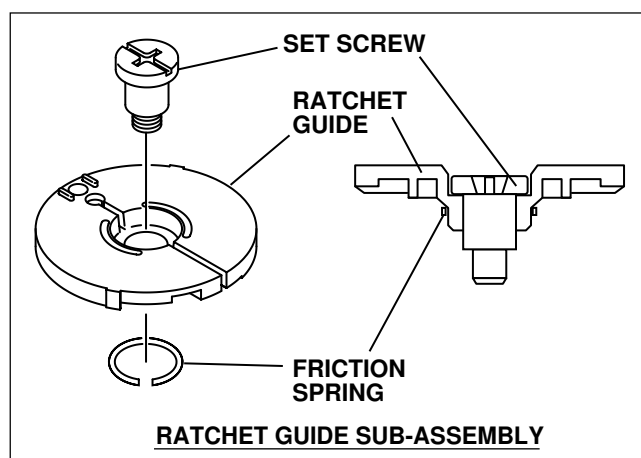

Fig. 9-6
-2: Holding the ratchet, set the ratchet-guide subassembly. (Fig. 9-6)